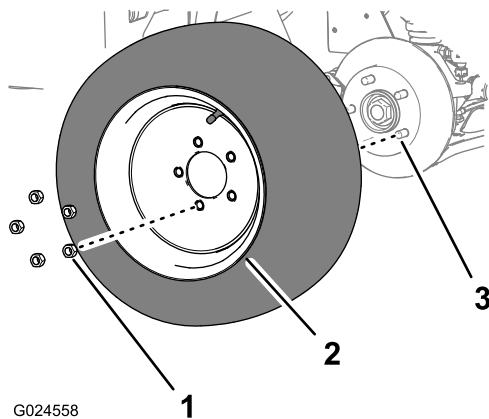

Figure 16
1. Remove the 5 lug nuts securing the front wheel to the wheel hub (Figure 16).
2. Remove the wheel from the wheel hub (Figure 16).